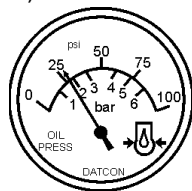

Figure 46. Oil Pressure Gauge
10. The engine oil pressure gauge (Figure 46) will indicate the oil pressure of the engine. Under normal operating conditions the oil pressure is approximately 28 to 85 psi. (193~586 kPa).